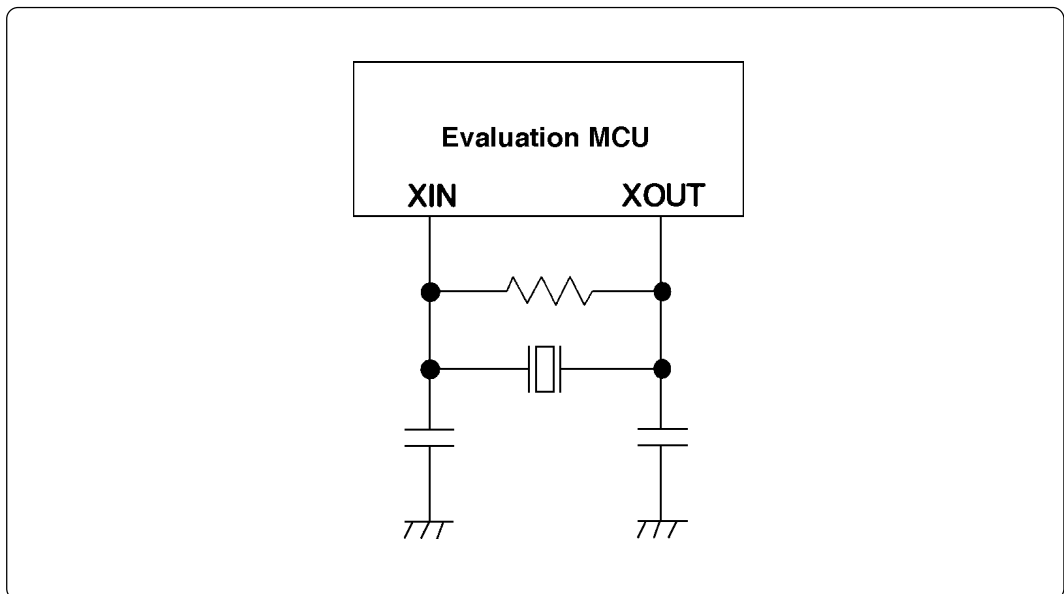

Figure 4.6 Circuit in which oscillation does not occur
- b. Make note of the fact that in the oscillation circuit shown in Figure 4.6 where a resonator is connected between the Xin (Xcin) and Xout (Xcout) pins, oscillation does not occur because a flexible cable, buffer IC and other devices are used between the evaluation MCU and the target system.